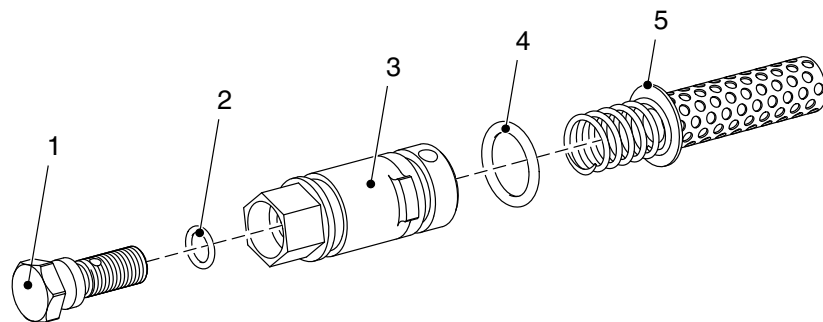

Fig. 31
2. Apply high temperature grease to the O-ring (4, Fig. 31).